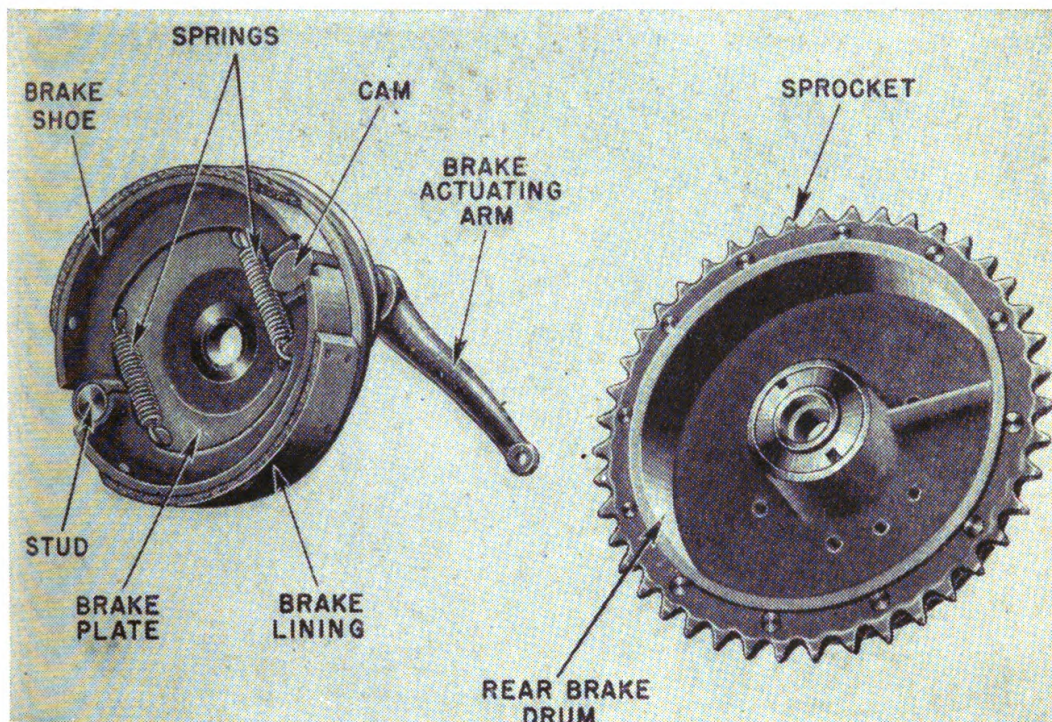

FIGURE 36.—Disassembled motorcycle brake.
*b.* Figure 36 illustrates various parts of a typical motorcycle brake. The two cast-iron shoes are pivoted, at one end, on a stud secured to the brake plate. A cam separates the shoes on the opposite side. Turning the cam spreads the brake shoes farther apart and causes the brake lining to bear against the brake drum, slowing or stopping the motor-